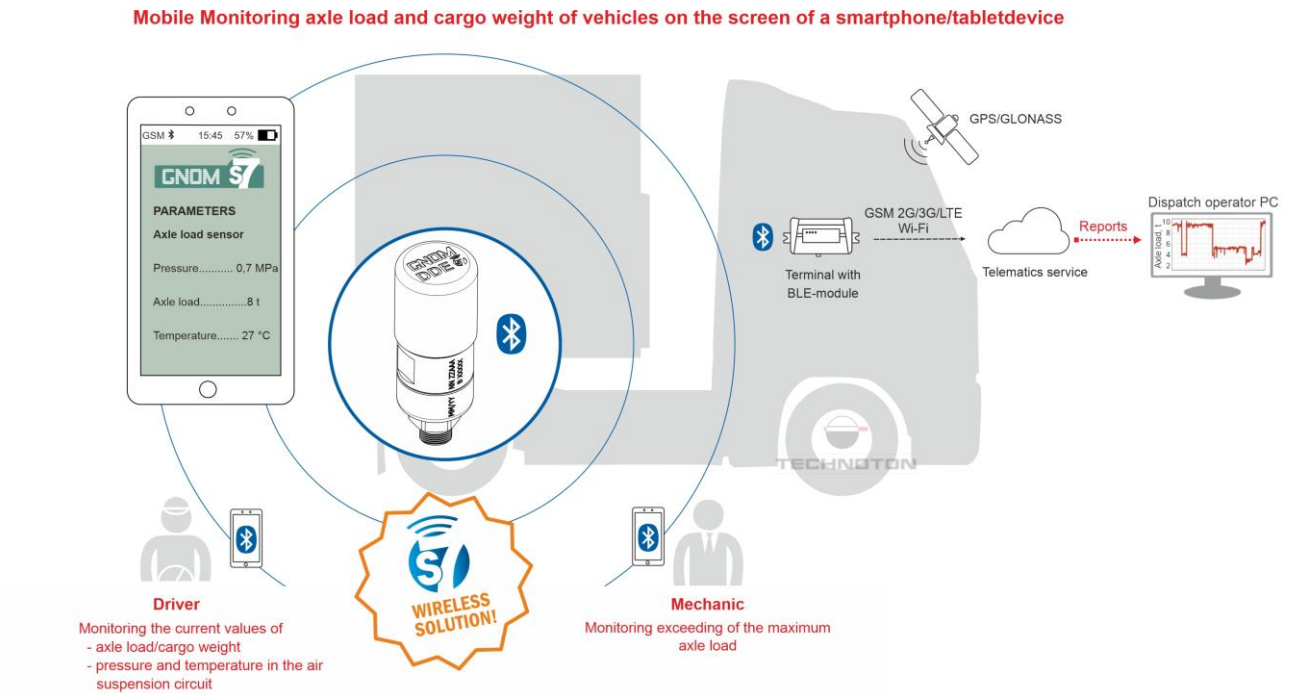

Figure 1 — Example of area of application of Axle Load Monitor application
**Application area:** Visual monitoring axle load (cargo weight) of mobile equipment exactly on site where they operate (see figure 1).